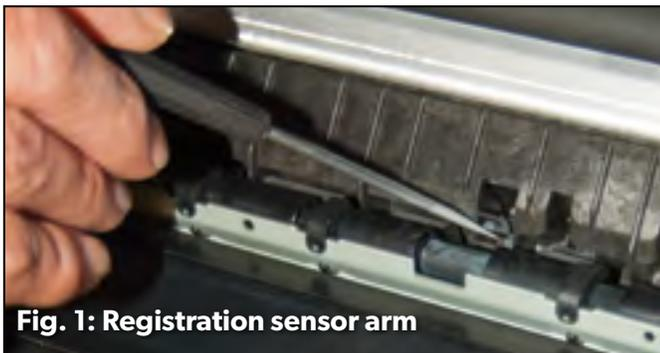

Fig. 1: Registration sensor arm
A. **REGISTRATION SENSOR ARM** (Fig. 1). Remove the toner cartridge and pull back the registration asm. Locate the registration sensor arm and make sure it has tension, is intact and free of paper. It is part of the registration/feed sensor assembly, a popular item at Liberty Parts Team and well worth stocking.
B. EXIT SENSOR ARM (1)